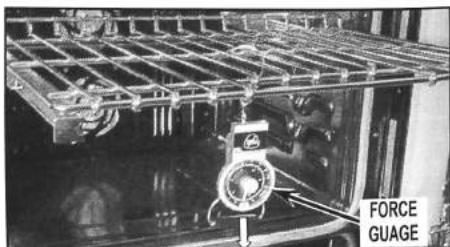

FIGURE 8
18. Pull the gauge straight down without touching the rack until the gauge reaches the 33 lbs (14.97 kgs) set point to verify the rack does not become disengaged. See Figure 8.